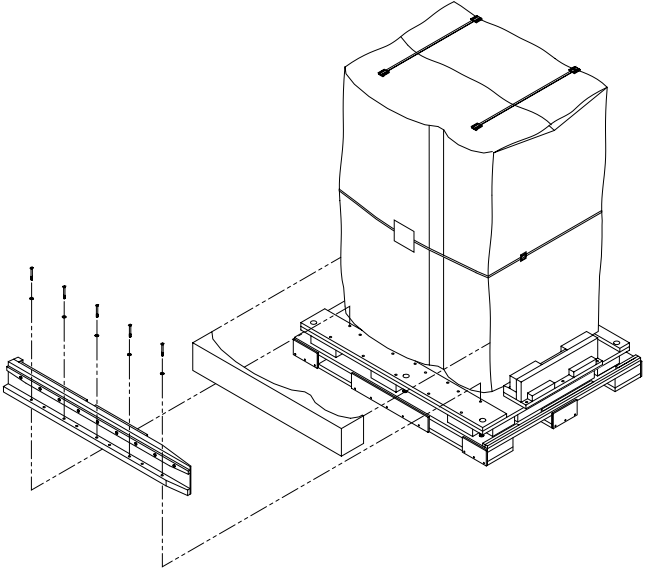

FIGURE 5-17 Attaching the Left Side Ramp and Styling Panel Support for Shipping
14. Attach the left side ramp and styling panel support using the 3/8-16 x 3-1/2" hex bolts (FIGURE 5-17).